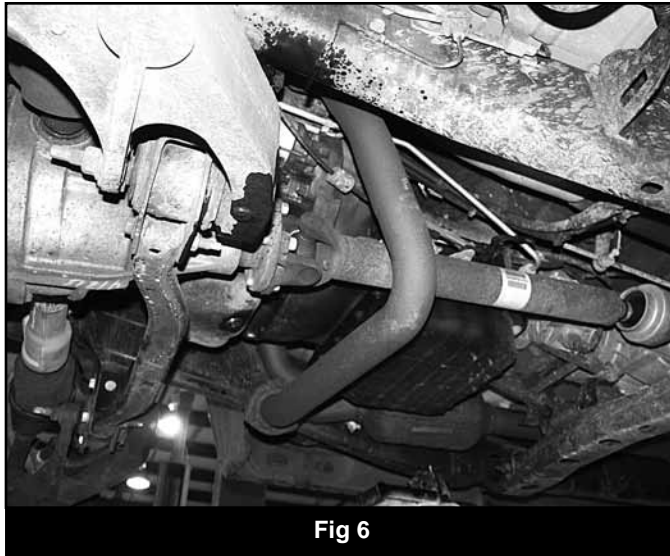

Fig 6
23. Locate the exhaust crossover pipe. If the crossover pipe runs under the front driveshaft it must be modified (Fig 6). The pipe can either be completely removed or cut to clear the driveshaft at this time. The other option is to wire up the front drive shaft if traveling a very short distance to the exhaust shop. Note: Vehicles equipped with a crossover pipe that runs near the transfer case will not require an exhaust modification. Have the exhaust modifications completed by a quality exhaust shop when the installation of this suspension system is complete.